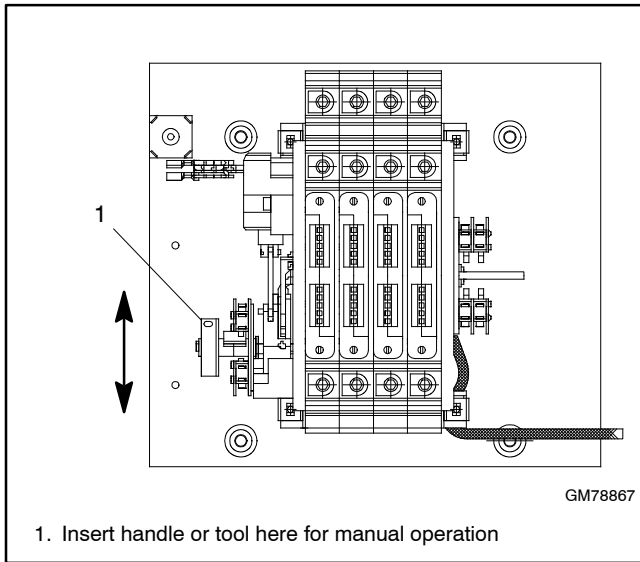
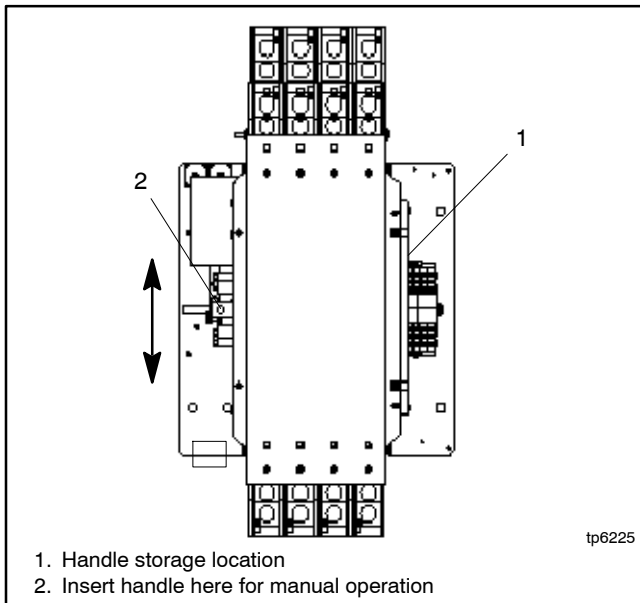

Figure 2-6 Manual Operation, 100–200 Amp 3-Phase Switches
Figure 2-7 Manual Operation, 400 Amp 3-Phase Switches
- If the transfer switch is equipped with a maintenance handle, remove the handle from its storage location inside the enclosure. See Figure 2-7.
side of the operator as shown in Figure 2-6 or Figure 2-7.